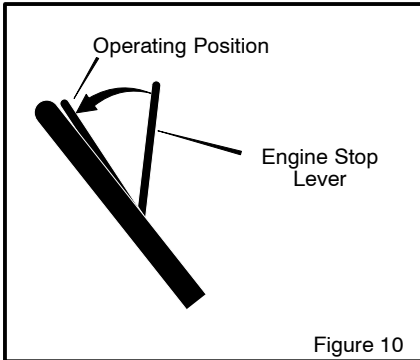
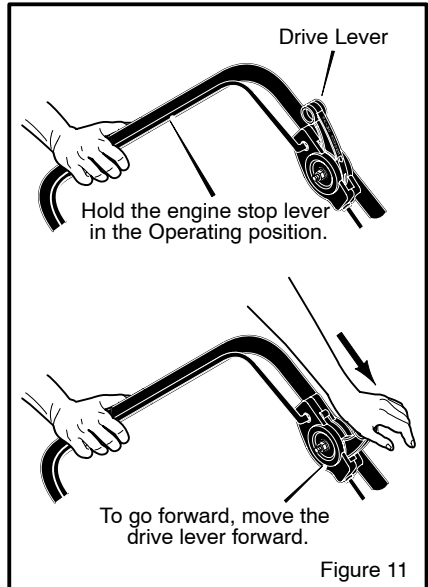

Figure 10
Figure 11
Release the **engine stop lever** and the engine and the blade will automatically stop. To run the engine, hold the **engine stop lever** in the **Operating position** (Figure 11).
1. Hold the **engine stop lever** in the **Operating Position** (Figure 10 and Figure 11).